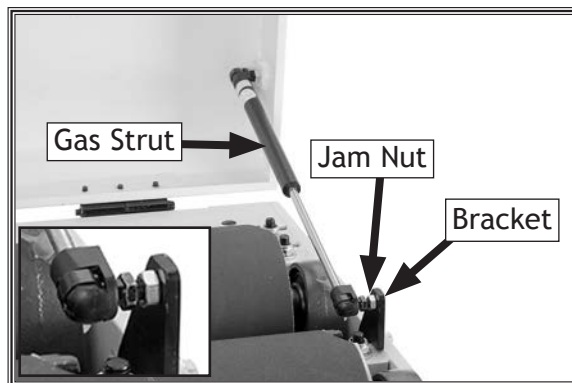

Figure 9. Gas strut installed (right side shown).
3. While an assistant holds the top cover up, install each strut on a bracket with a jam nut, as shown in **Figure 9**. The threaded end of each strut should be flush with the outside of the bracket.